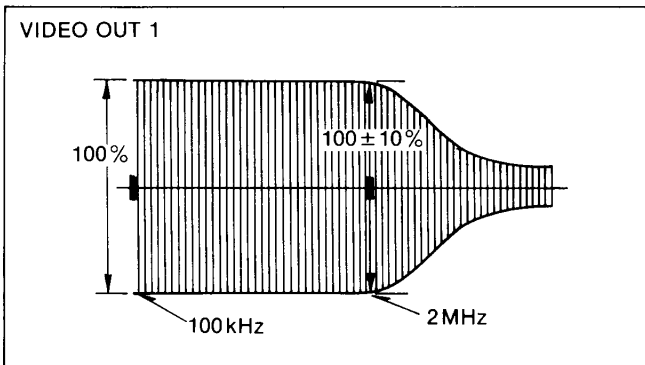

Figure E28
6. Adjust VR3005 so that the playback frequency response becomes the ratio of 100 : 100 +/-10 at the marker points of 100kHz and 2MHz as shown in Figure E28.
1. Prepare the prerecorded tape which recorded a 30% sweep with burst signal on another recorder (AG-7350) referring Figure E28.
2. Prepare the prerecorded S-VHS tape which recorded the sweep without burst signal on another recorder (AG-7350) as shown in Figure E28.